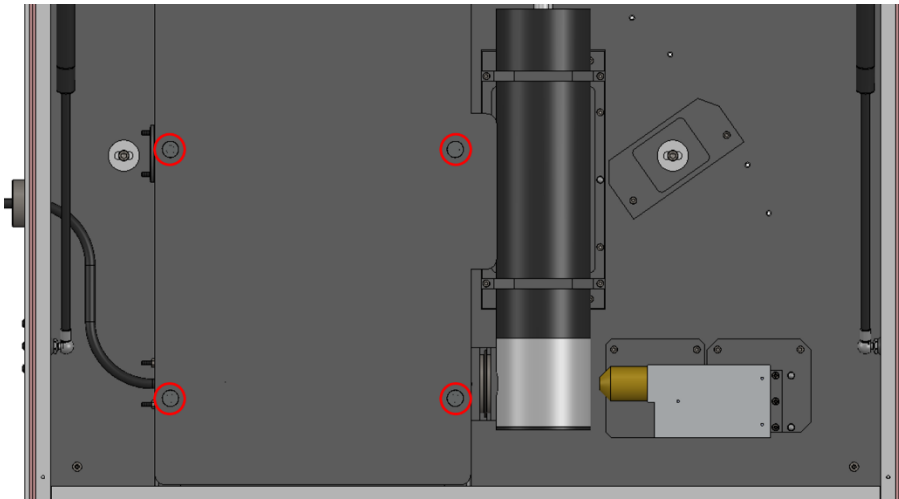

Figure 28: Location of thumbscrews holding inner chamber cover.
4. Remove the four thumbscrews and take off the inner lid (Figure 28):